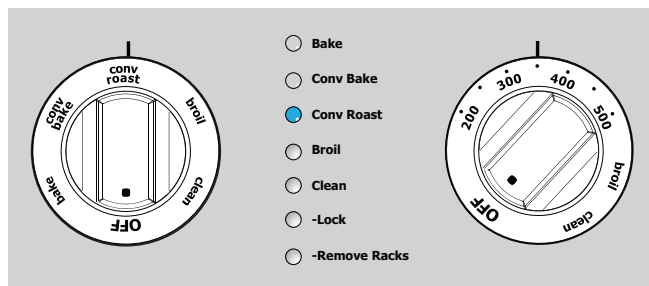

Figure 21: Convection roast selection
7. Turn the function dial to **conv roast**. The Conv Roast indicator light will flash (Figure 21)